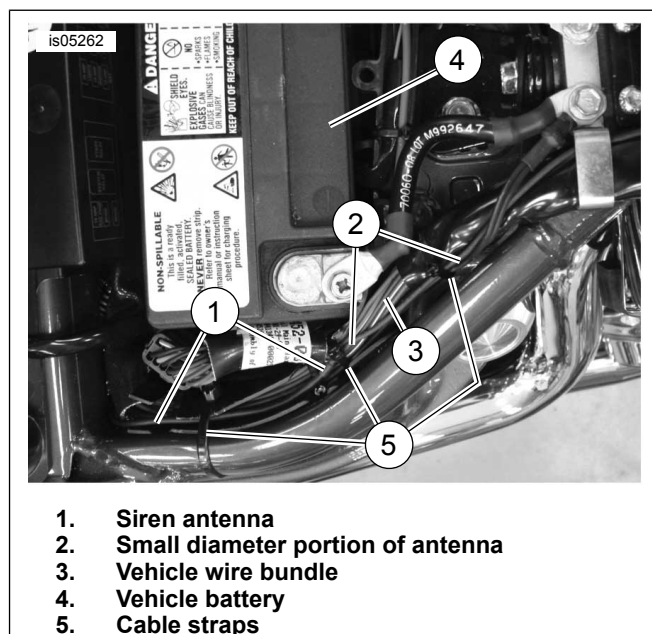

Figure 26. Siren Antenna Mounting (FXCW, FXCWC Models)
6. See Figure 26. Route the siren pager antenna (1) upward to the rear of the siren box. Route forward following the path of the wire bundle (3) along the right side of the vehicle battery (4).